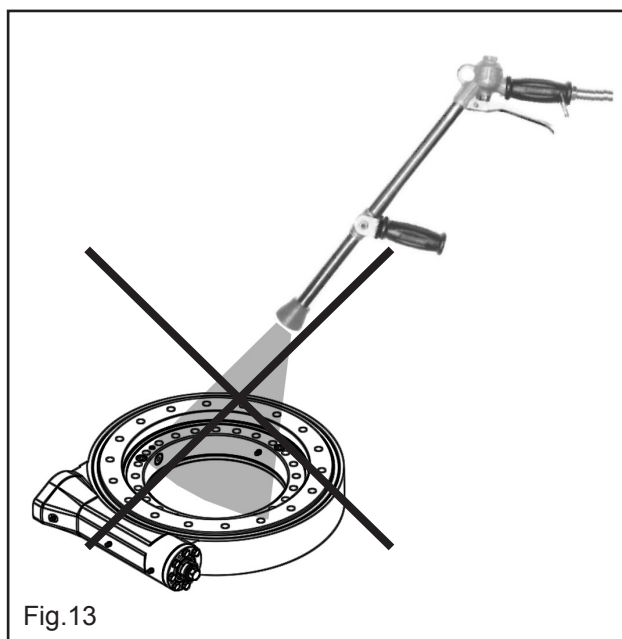

Fig.13
4. During washing operations please avoid hitting the slew ring with the direct and close jet of a high pressure washer; its strong pressure can raise the lip of the seal with the consequent entry of water (Fig. 13).